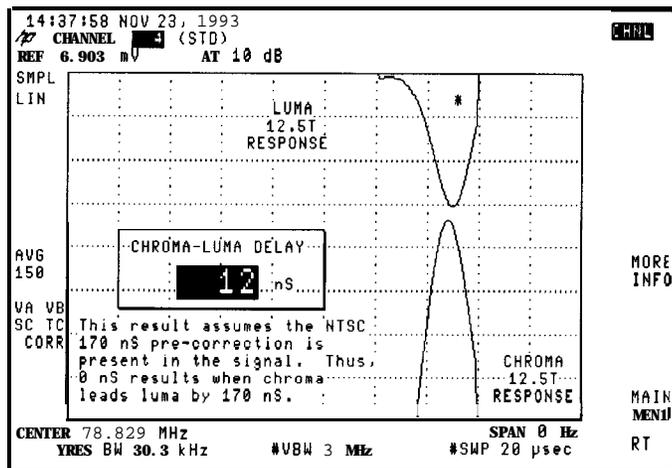

Figure 2-16. Chrominance to luminance, More Information
7. Press MORE INFO to display chrominance to luminance response information. See Figure 2-16